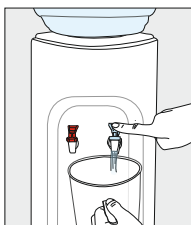
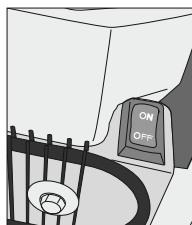
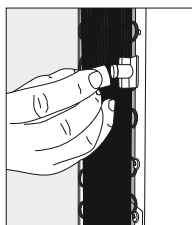
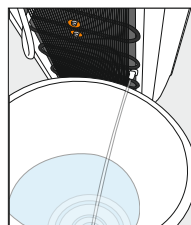

Figure 10
Figure 11
Figure 12
Figure 13
5.3 Use a bucket to drain water from the cold water reservoir through faucets. On Hot & Cold models (Figure 10), turn off hot tank switch as above (Figure 11). Allow 1 hour for the hot water to cool down inside the hot water tank. Remove the drain plug at the rear of the cooler to drain into a container. (Figure 12 and Figure 13)